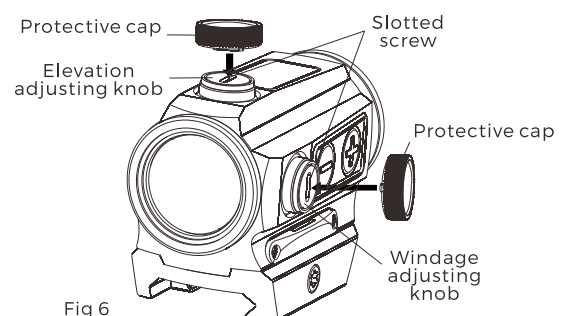

Fig 6
1. On top of sight is the elevation adjusting knob, windage adjusting knob is on the right side (see Fig6). The sight has been primarily adjusted in factory.
2. The Convex platform on the protective cap can be used for zeroing alignment (see Fig6).